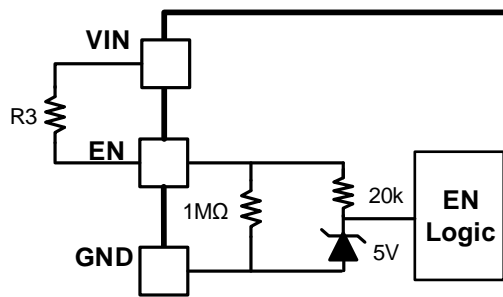

Figure 10. Adjustable VIN UVLO
An internal 1MΩ resistor from EN to GND allow EN float to shut down the chip. EN is clamped internally using a 5V series diode. For applications where a specified VIN UVLO voltage needs to be set, EN connects a resistor R3 to VIN to form a voltage divider with a 1M resistor inside the chip for the configuration of VIN UVLO voltage, as shown in Figure 10. The resistor distributor R3 is calculated by Equation (3).